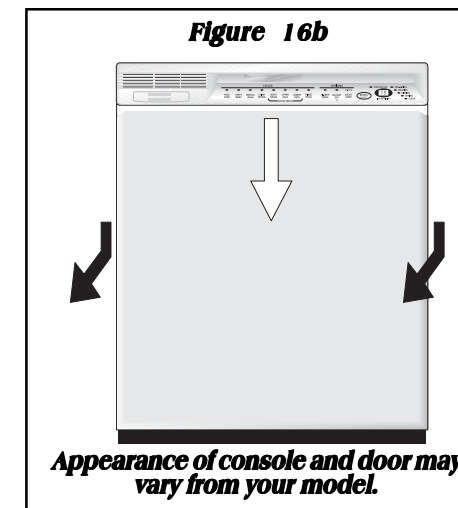

Figure 16b
3. Place one hand on each side of door and pull down at top approximately ¹/₄". Pull entire door assembly toward you to remove. See Figure 16b.